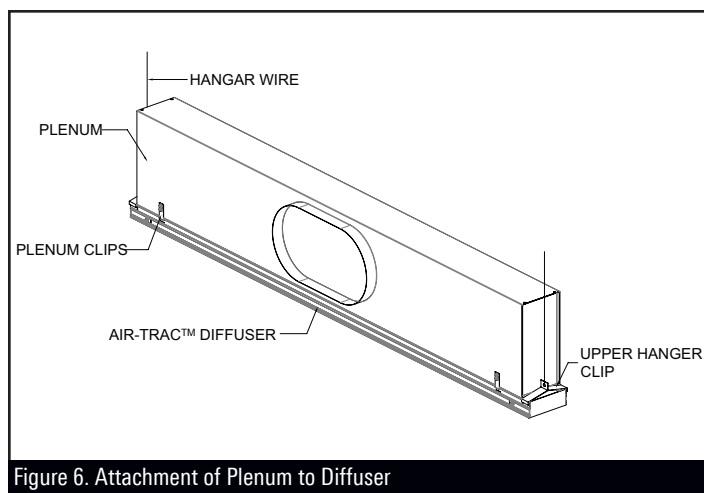

Figure 6. Attachment of Plenum to Diffuser
- ☐ If Plenums were mounted earlier, attach the Plenum by snapping it to the Diffuser using the clips on the Plenum as shown in Figure 6.